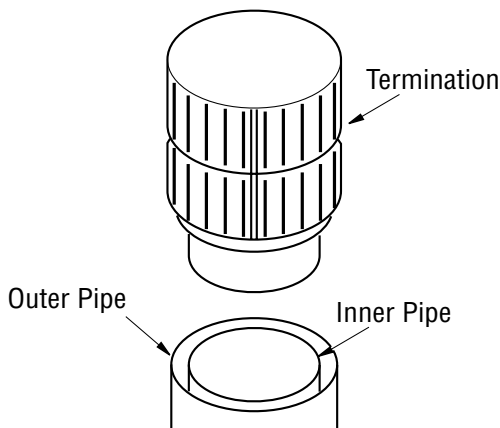
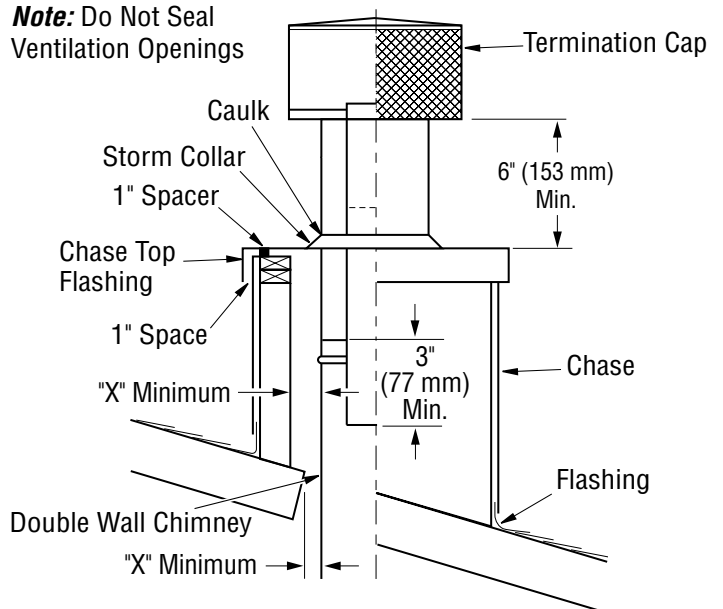

Figure 28- Installing Termination Cap
Figure 29 - Chase Installation
- Place termination cap over opening. Slip stainless steel inner pipe of termination into inner stainless steel chimney section (see Figure 28). Place galvanized steel over chimney outlet (see Figure 29).
- Attach storm collar where chimney pierces opening in flashing. Caulk where storm collar touches outer chimney pipe (see Figure 29).